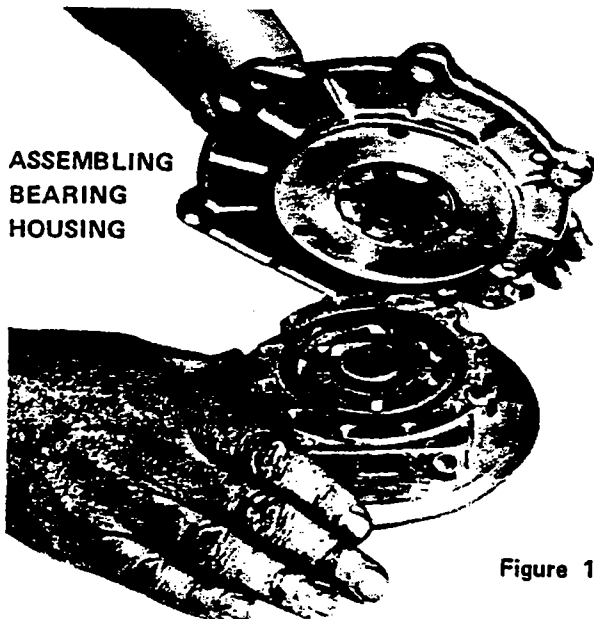

Figure 14
2. Insert the bearing and shim assembly into the bearing housing so that the tangs on the bearing flange drop in between the bearing retainer lugs. (see Fig. 14) to prevent the bearing from rotating.
3. Add a few drops of lubricating oil to the face of the bearing. Position the mating ring on the bearing as illustrated in Fig. 14. Coat the outside face of the mating ring with a few drops of oil.